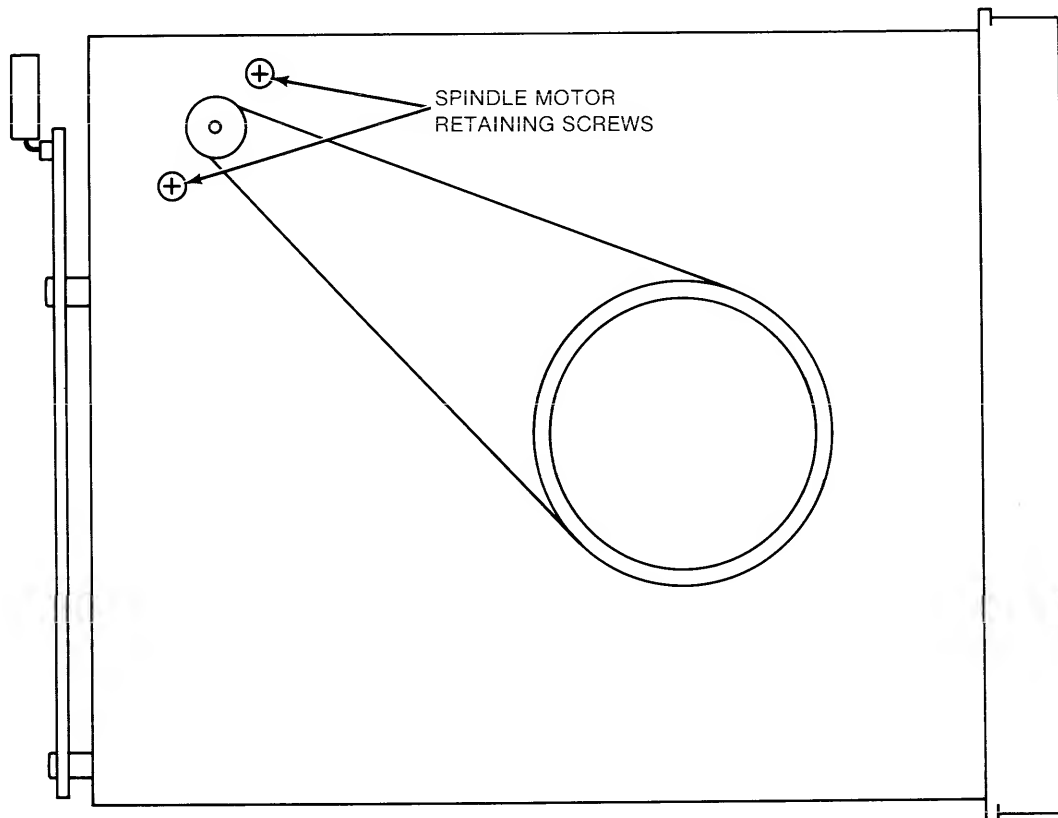

Figure 5-2. Spindle Drive Belt Adjustment
b. Refer to Figure 5-2 while performing these steps: